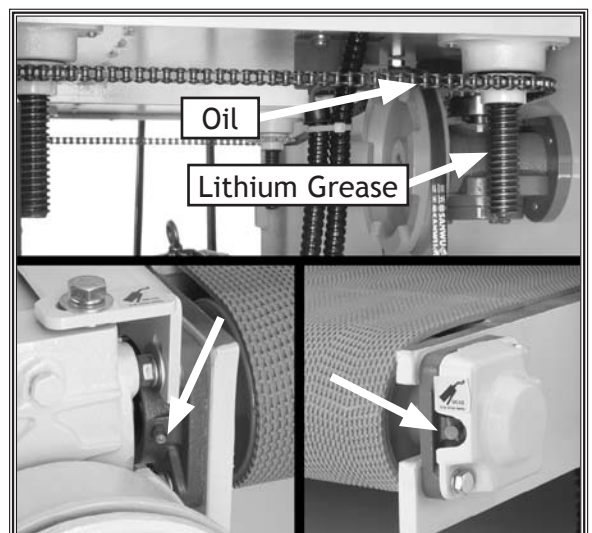

Figure 31. Conveyor grease fitting locations.
- After every 20-40 hours of use, lubricate the elevation screws with grease, and brush or lightly spray the table chain and sprockets with a light coat of oil and wipe any drips off (see **Figure 31**).